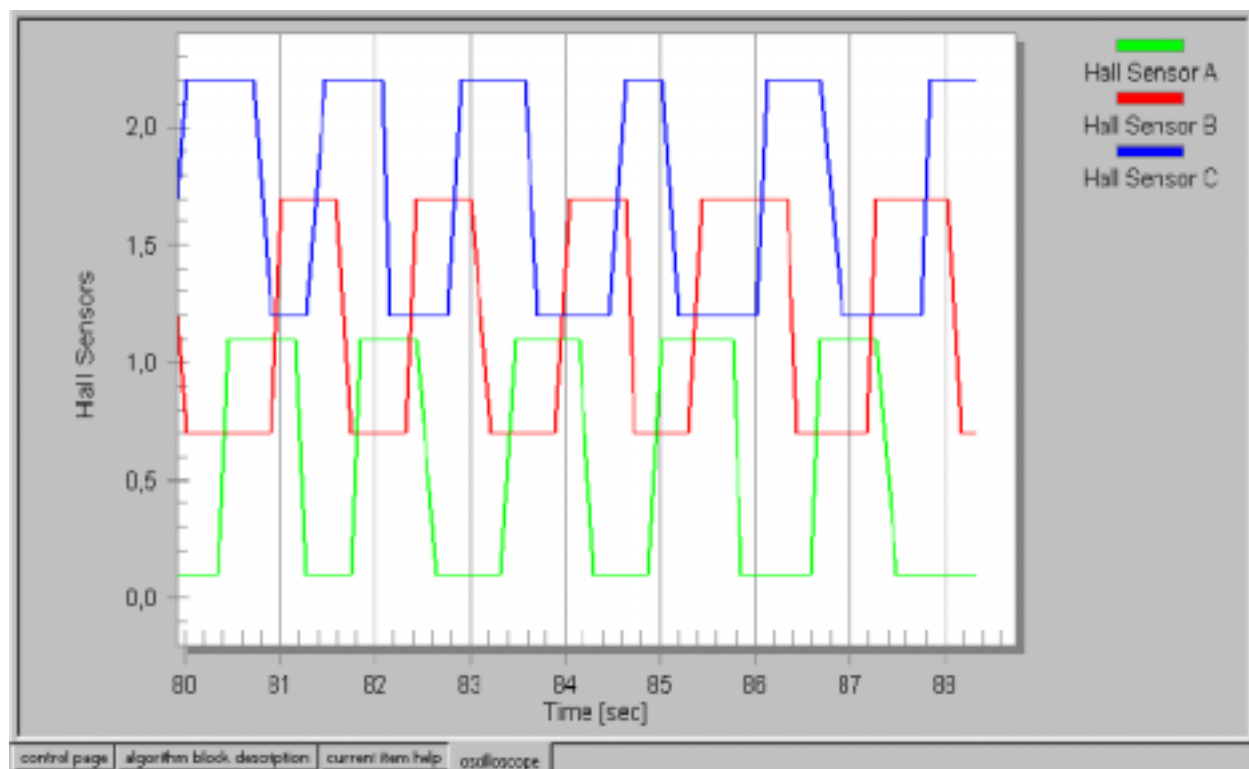

**Figure 1-21. Example PC Master Software Screen**
**Figure 1-21** illustrates an example using PC Master Software to digitally probe signals internal to the software operating on the 56F8300 device. The application is run in real time and the data is exchanged in real time from the 56F8300 processor to the oscilloscope display function in the PC Master Software running on the Windows host computer. Some of the features of the PC Master Software are: